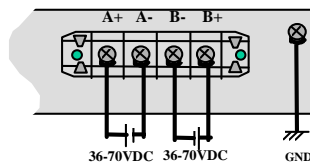

Figure C5.0: -48VDC Dual-Source, wiring connections to the External Terminal Block on a Magnum 48VDC with Dual-Source option
The -48VDC terminal block on the Magnum 4K-Series Switch is located on the right rear of the unit and is equipped with five (5) screw-down lead posts (see Fig C5.0). The primary terminals are identified as positive (A+), negative (A-), and the secondary power terminals as negative (B-), positive (B+). The chassis "earth" or ground (GND), is a threaded post with a #6 nut.